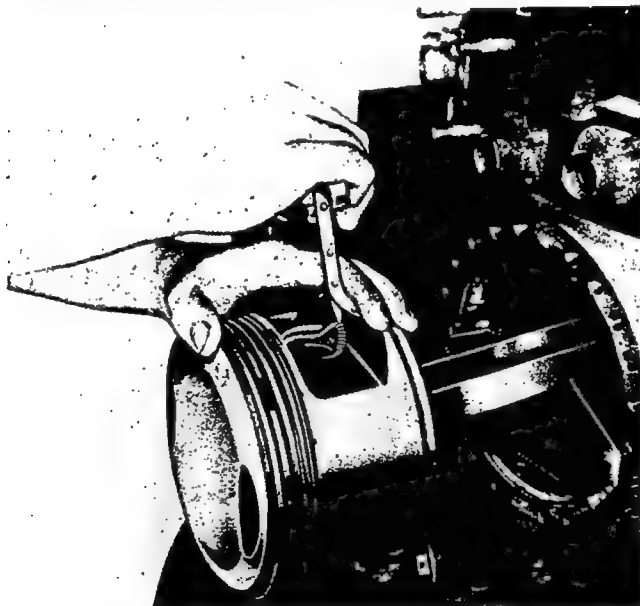

Figure 48—Removing Piston Pin Retainer
(1) Remove both piston pin retainers, using Tool No. 803299. Insert the spade-shaped end of the tool between two of the coils of the spring and turn the handle 90 degrees. Pry out the spring, resting the leg of the tool against the wall of the piston. Place one hand over the piston pin bore to catch the retainer as it is pried out. Figure 48 shows the application of the